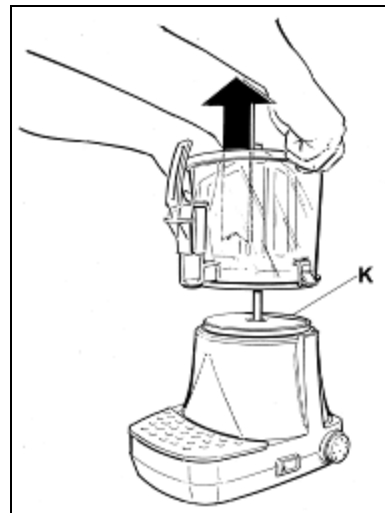

Fig. 7
- 4). **G**rasp the central shaft with one hand and pull lever F (fig 7) outwards with the other in order to disassemble the bowl into the stainless steel base and the transparent cylinder.
- Anytime that you replace the grasp container on the plate, make sure that the probe (K) touches the bottom of the grasp container perfectly (see fig. 7).